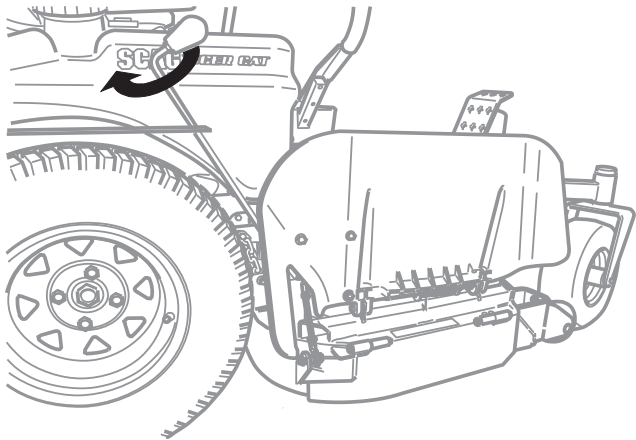

Figure 2-2. Moving from Closed to Open Position
1. Rotate OCDC control handle outward to lower the side discharge chute. See Figure 2-2. The discharge chute will lower to its original position for safe side-discharge operation.